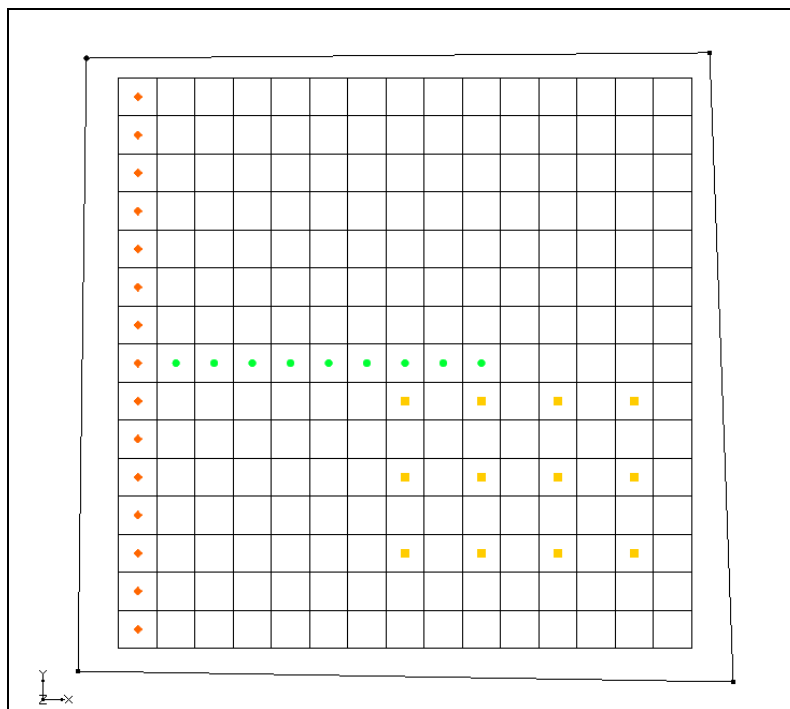

Figure 4. Creating a polygon that encompasses the model grid.
2. Create an arc that surrounds the grid. End the arc on the point you started from to form a closed polygon, as shown in Figure 4.